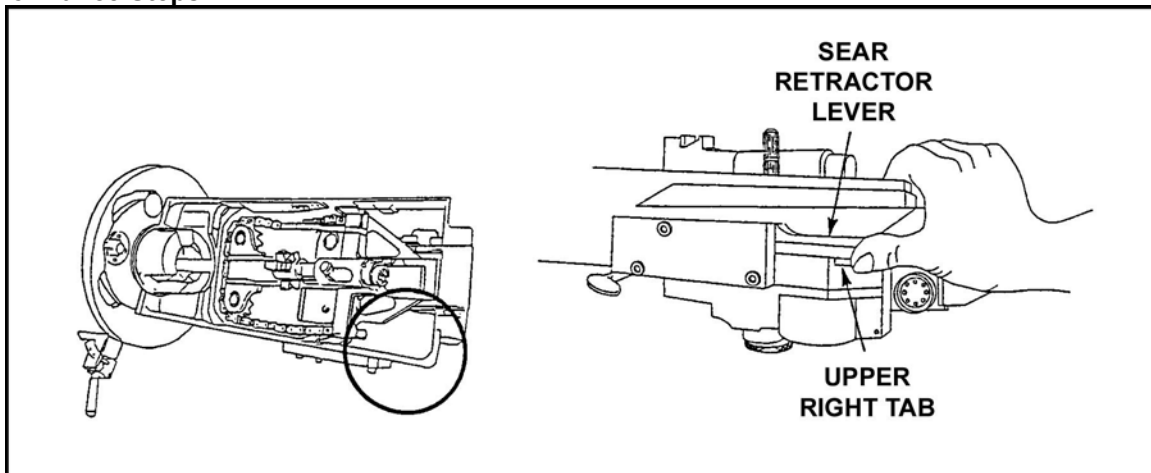

Figure 15. Sear retractor lever.
- (5) If TOW is to be boresighted, raise TOW launcher.
- (6) Perform functional checks on the 25mm gun system.
- (a) Ensure the manual sear retractor is disengaged (Figure 15).